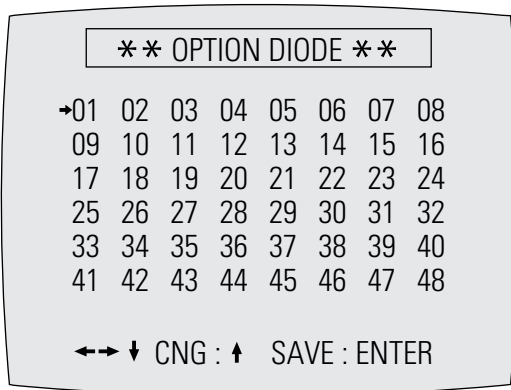

Fig. 4-17
- 2) Press the "VOL +" button on the remote control about 5 seconds then option setting is appeared. (See Fig. 4-17)
- 4) If selecting the option number is completed, press the "DISPLAY" button of remote control. (If "DISPLAY" button is pressed, the selected number is changes reversed color. ; See Fig. 4-17)